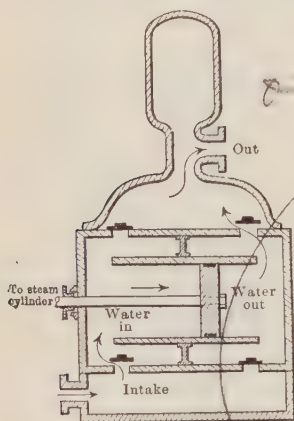

FIGURE 111.—WATER END OF STEAM PUMP.
**73. Steam Pump.**—A steam pump has two cylinders, one for water and one for steam (Figure 111). Each cylinder has a tightly fitting piston. These two pistons are connected by a piston rod. In the steam cylinder a set of valves admits the steam first on one side of the piston and then on the other. This alternating pressure of steam moves both pistons back and forth. When the water piston moves to the right, it leaves a partial vacuum behind it and water can enter through the inlet valve from a supply